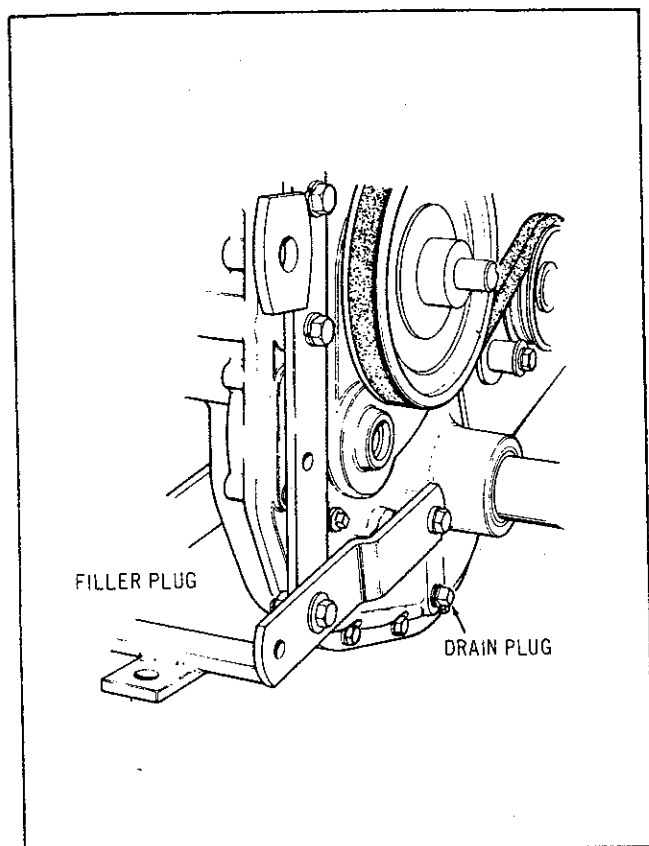

FIG. 7
(1) Rear Axle Tube - Figure 7
The Transmission has a capacity of 1-1/2 Qts. of SAE 90 oil, and is filled at the factory. It will not normally require replenishment, but occasionally check Drain Plug for tightness and Axle Tube Oil Seals for leakage. Maintain oil level at lower edge of Filler Plug Hole. Remove Vent Plug from top of Transmission and allow oil to settle to normal level before checking. See Figure 7.